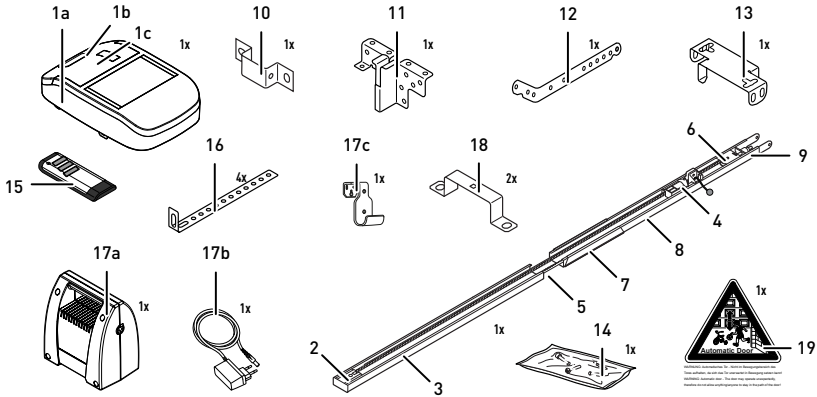

Fig. 2: Product overview – individual parts
Mount the drive head (1) to the rail (3, fig. 2) using the mounting brackets (18).